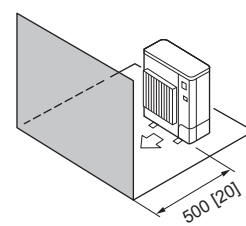

Fig. 2-9
4. Obstacles at front only (Fig. 2-9)